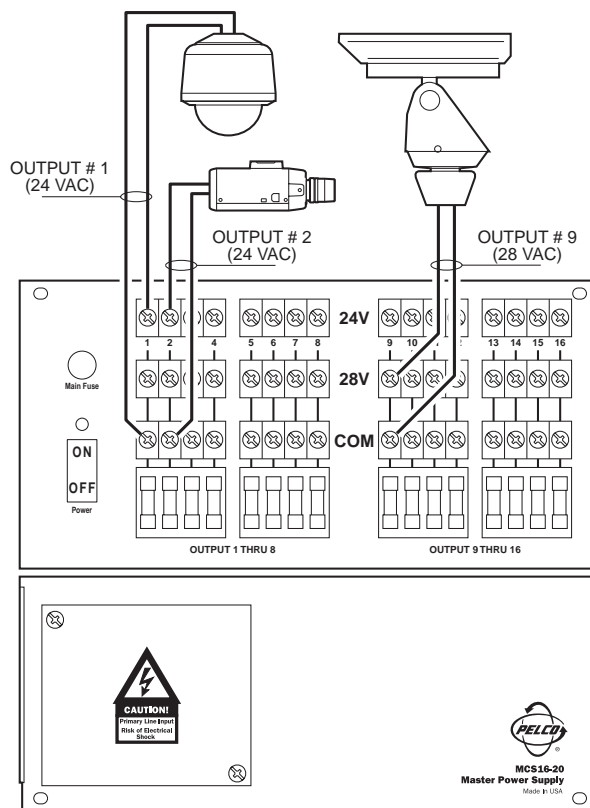

Figure 3. Power Supply Wiring Diagram
3. Remove the high-voltage compartment panel (refer to Figure 3). Set the input voltage selector switch to the appropriate line voltage.
7. Install and connect power wires from the cameras to the power supply. For each camera, attach one wire to the COM terminal and the other wire to either the 24V or 28V terminal (refer to Figure 3). Double-check the installation for safety purposes.